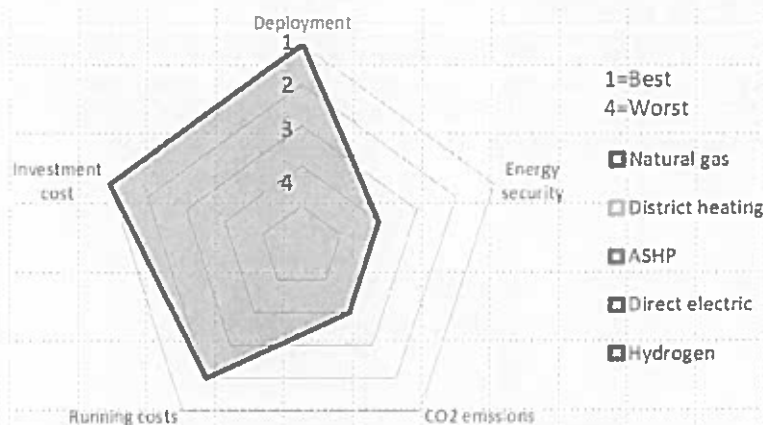

Figure Q4.1- Diagram comparing the features of different heating systems
- b) A comparison of each of the aforementioned types can be made by using a "spider gram" as shown in Figure Q4.1 where "1" is ranked "Best" and 4 is the "Worst". Answer the question described below.